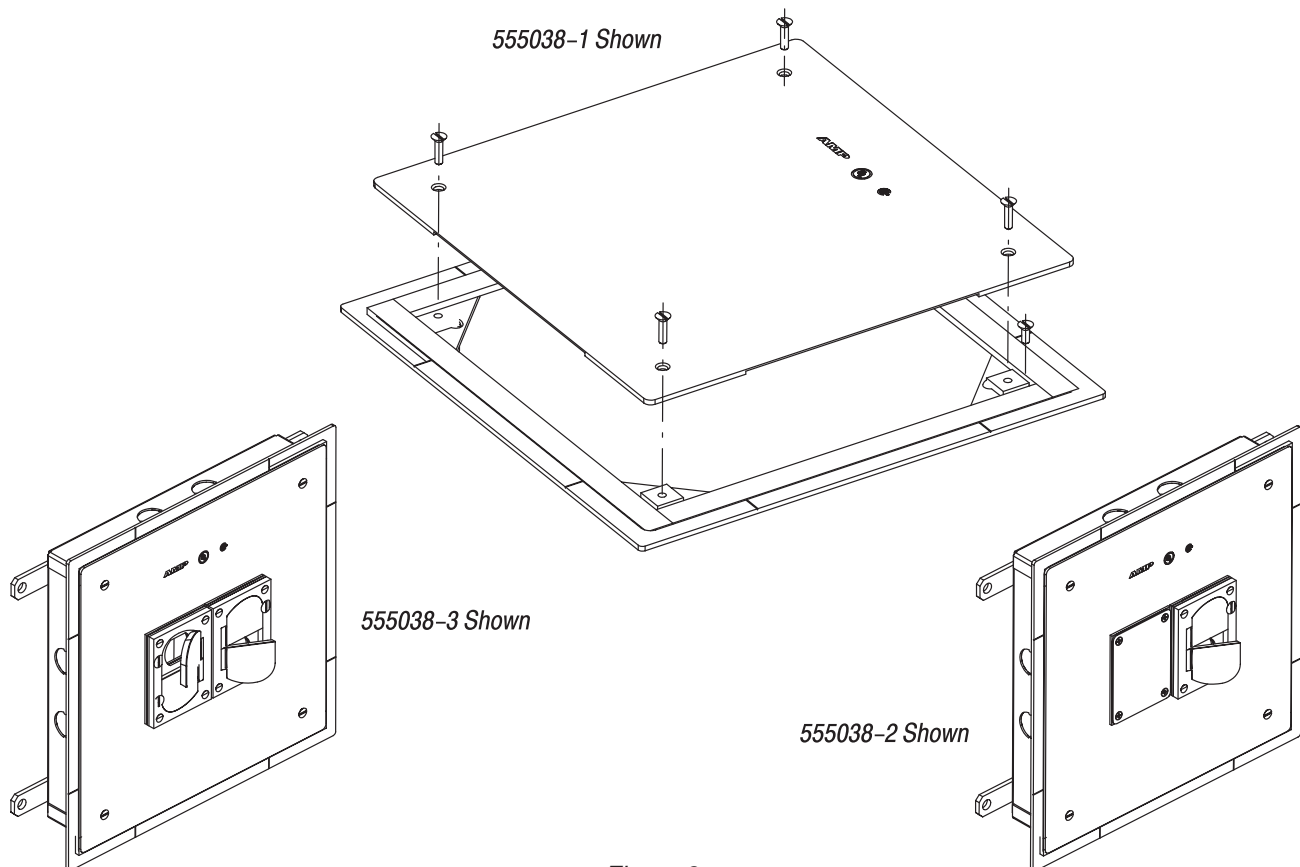

Figure 8
1. Position the cover over the leveling ring as shown in Figure 8.